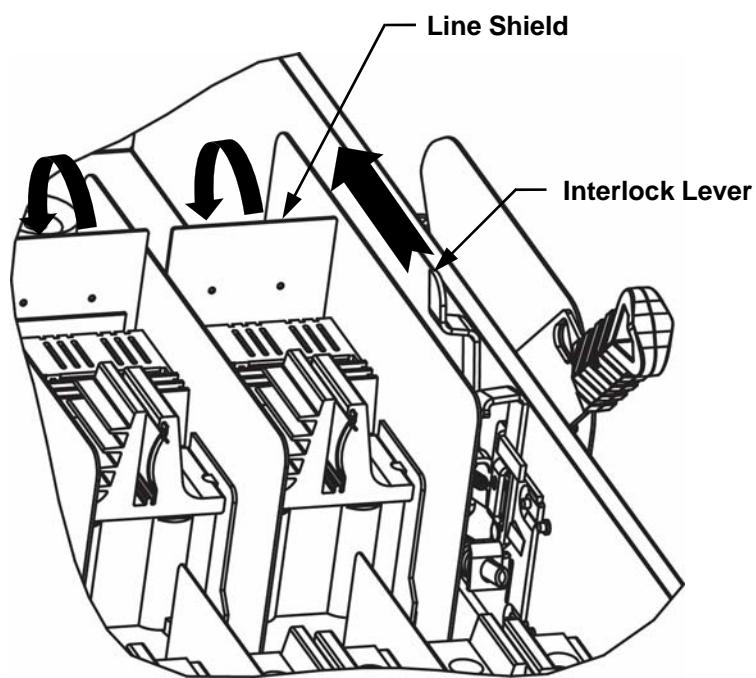

Fig. 20
18. Rotate line shields as shown in Fig.20.